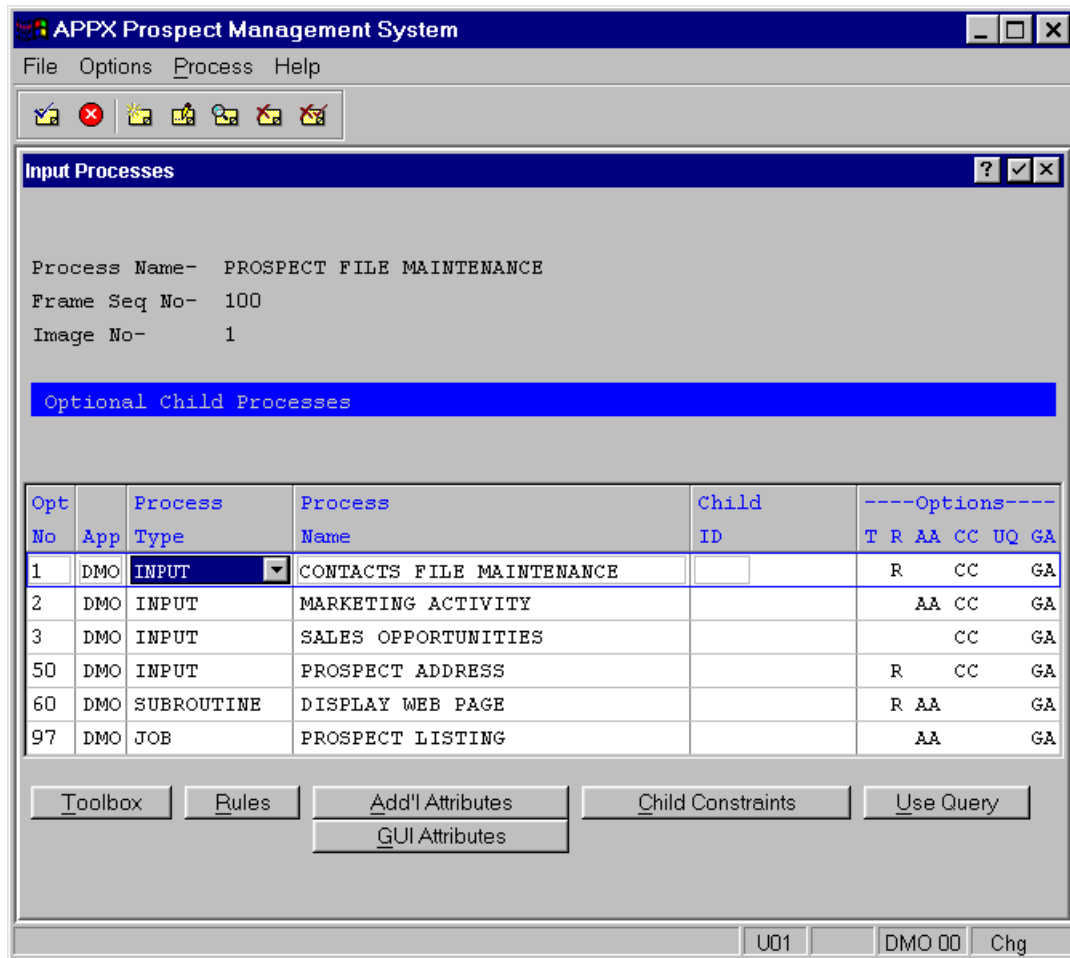

Figure E3.19 – Optional Child Processes Listing
- A scrolling list of the existing **Optional Child Processes** is displayed (*Figure E3.19*).